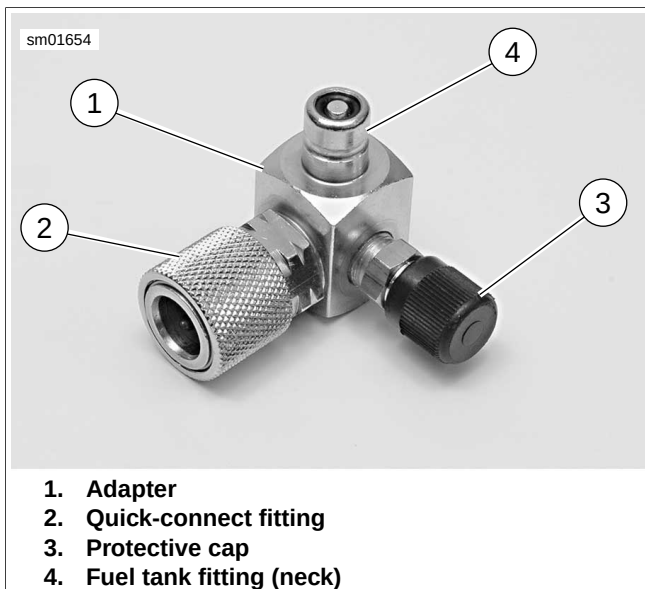

Figure 4-84. Fuel Pressure Gauge Adapter (Part No. HD-44061)
2. See Figure 4-84. Attach FUEL PRESSURE GAUGE ADAPTER (Part No. HD-44061) (1) as follows:
4. See Figure 4-84. Remove protective cap from free end of fuel pressure gauge adapter. Connect fuel pressure gauge to Schroeder valve.